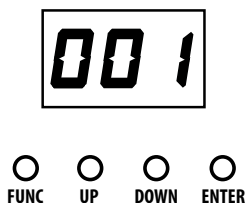

Fig.8
- Press the button FUNC so many times until the display shows the DMX address (fig.8).